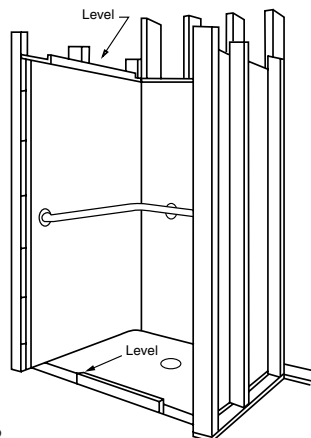

Fig. 3
One-piece units [Fig. 3]
- Using 3 ft (915mm) level, check top of both side-walls and threshold and spot nail each upper front corner to secure unit until foundation material has set. Apply weight on top of drain and threshold center until set. [Fig. 3]
- c. Using 3 ft (915mm) level, check top of both side-walls and threshold and spot nail each upper front corner to secure unit until foundation material has set. Apply weight on top of drain and threshold center until set. [Fig. 3] [Caulk seam between threshold & sub-floor.]